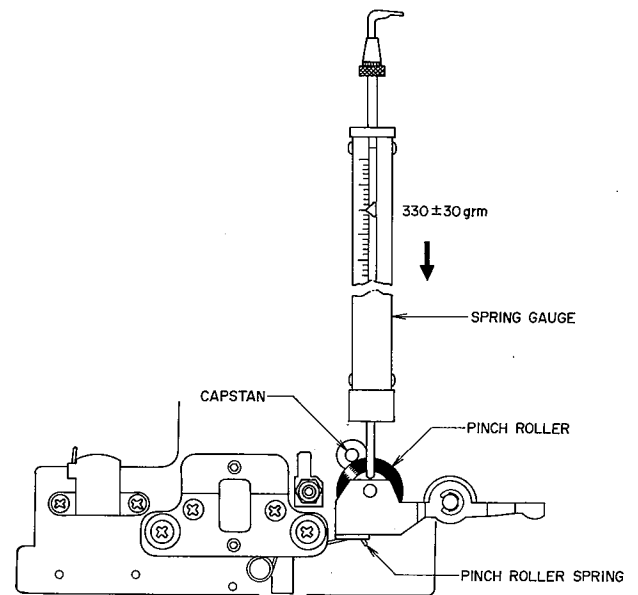

Fig. 20
4. PINCH ROLLER PRESSURE MEASUREMENT (Refer to Fig. 20)